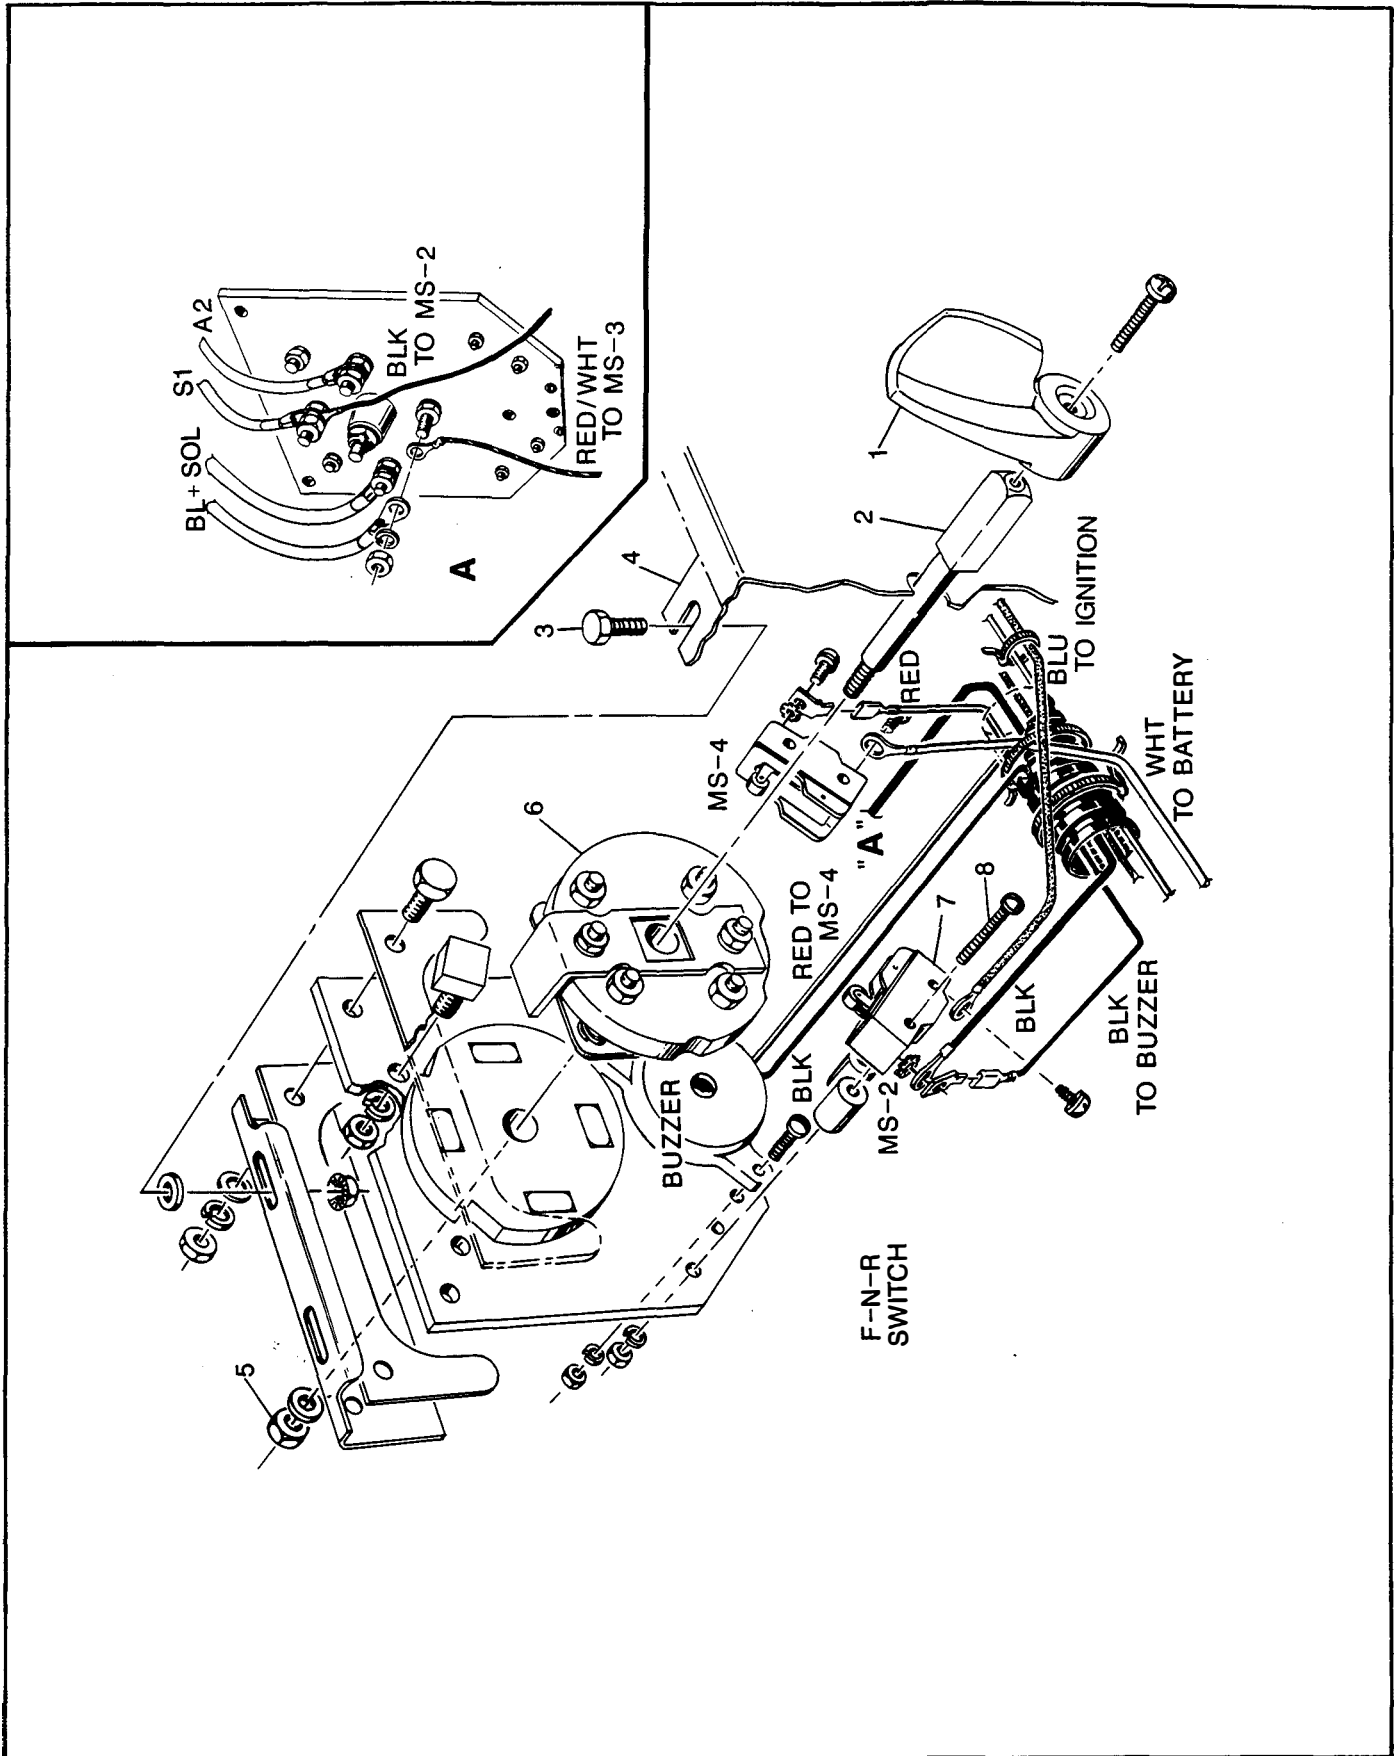

FIG. K-6 FORWARD-NEUTRAL-REVERSE SWITCH ASSEMBLY
### FORWARD-NEUTRAL-REVERSE SWITCH (Fig. K-6)
**FORWARD-NEUTRAL-REVERSE SWITCH REMOVAL AND DISASSEMBLY (Fig. K-6)**
Reassemble the switch in the reverse order of disassembly. Rotate the cam from stop to stop and check the operation of the micro switch (7) roller. The switch roller must be positioned as shown in Figure K-6, when the cam is located in the reverse stop position. Loosen the mounting screws (8) and adjust the position of the micro switch to achieve the position shown.